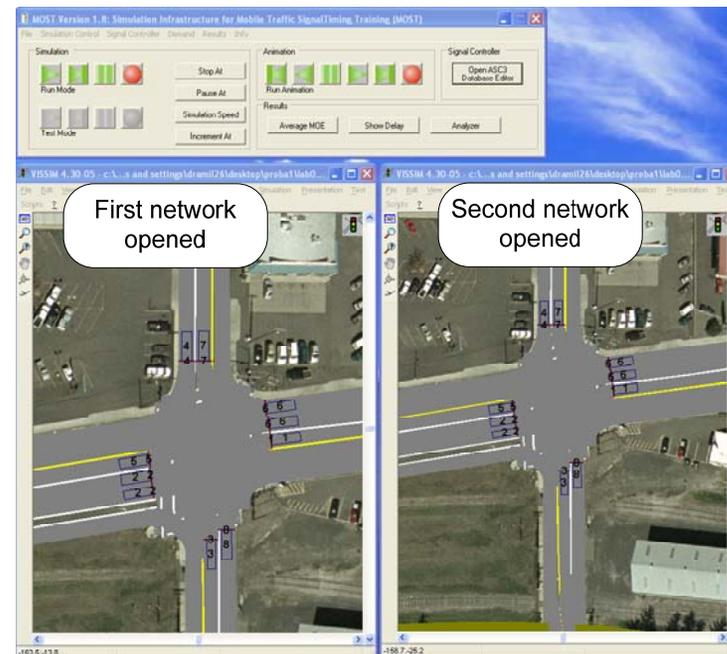

Figure 8 MOST interface simultaneous view of two networks
- Your screen will appear similar to what is shown in Figure 8. Note that the two simulation windows are next to each other, with the first network on the left.